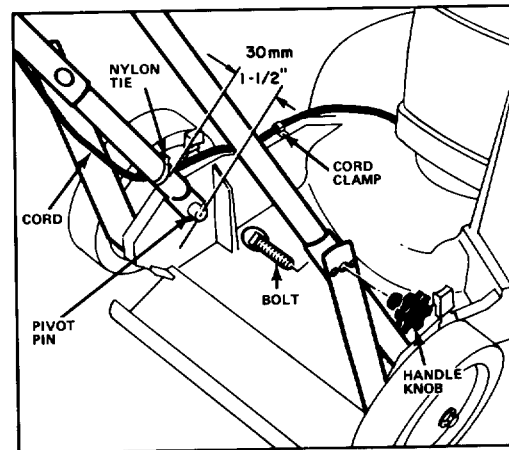

Figure 1
1. Push ends of lower handle together and install on pivot pins (Fig. 1). Insert bolts through hole in handle latches and install handle knobs (Fig. 1). Tighten securely. Assure electric cord runs between handle and handle latch (Fig. 1).
2. Secure electric cord to handle with a nylon tie (Fig. 1). Position nylon tie approximately 1-1/2" above handle pivot pin. Before tightening nylon tie, pull electric cord tight between nylon tie and cord clamp on mower housing (Fig. 1). CORD MUST NOT TOUCH WHEEL DURING OPERATION.